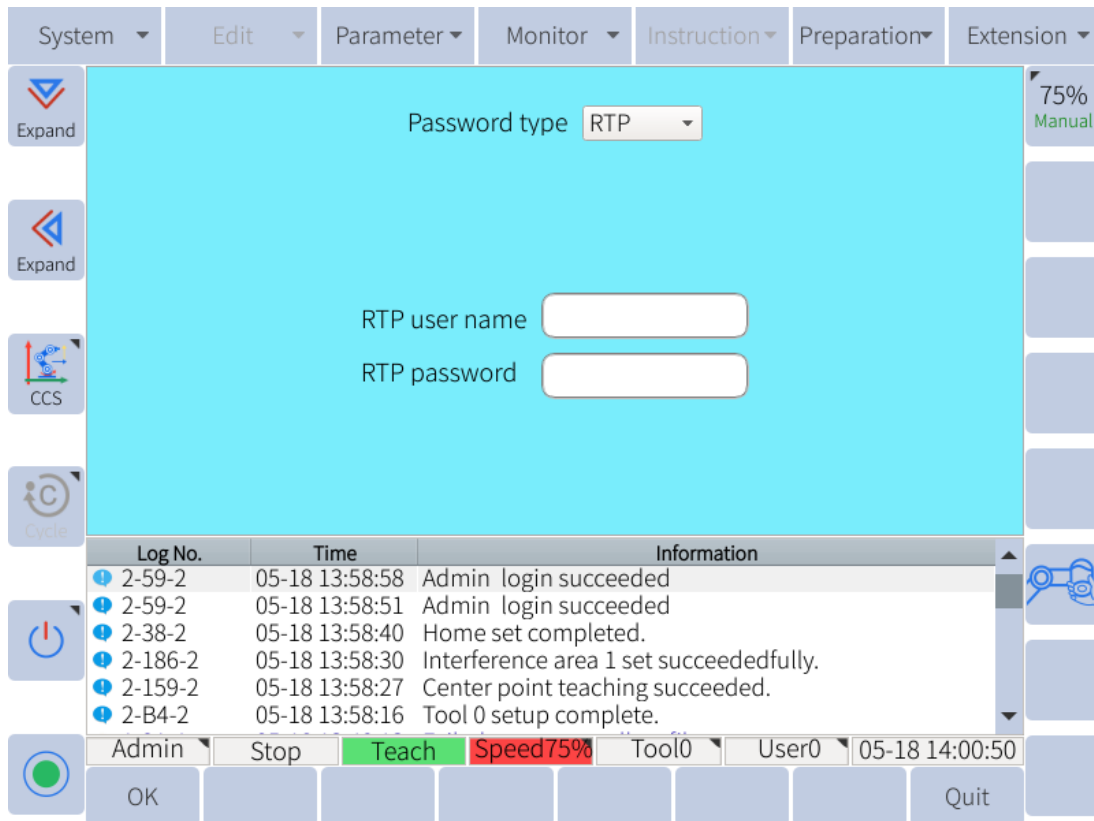

Figure 11-3 : set username and password
3. Enter the username and password, which is used to log in the website, as shown in **Figure 11-3**